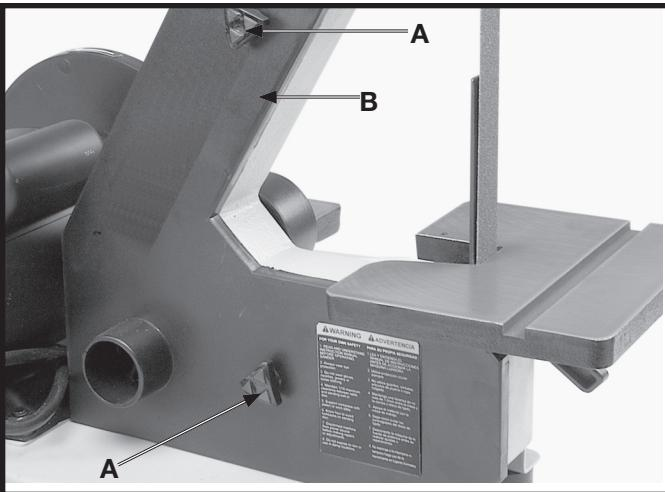

Fig. 31
- Remove the two knobs (A) Fig. 31, and remove the side cover (B) from the belt unit.